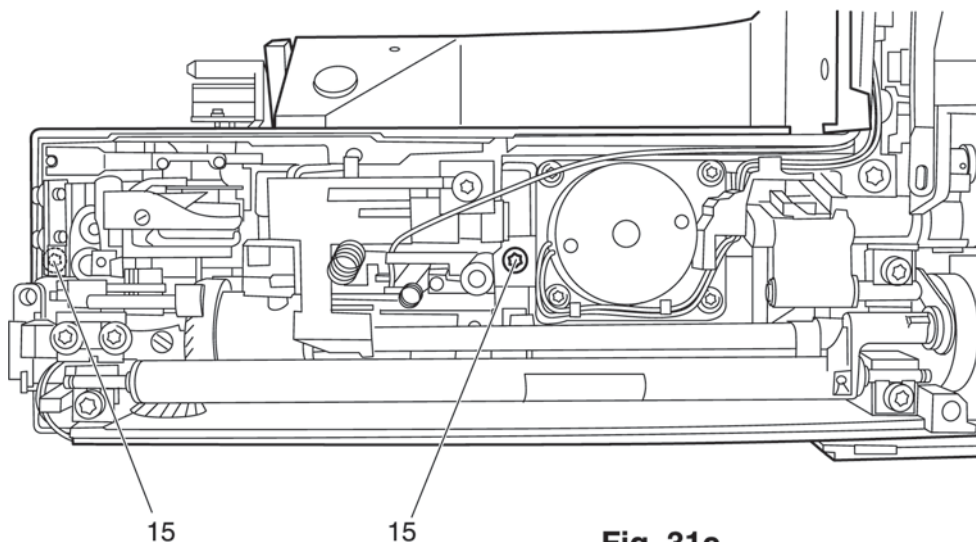

Fig. 31c
- Remove both screws 15 (fig. 31c).